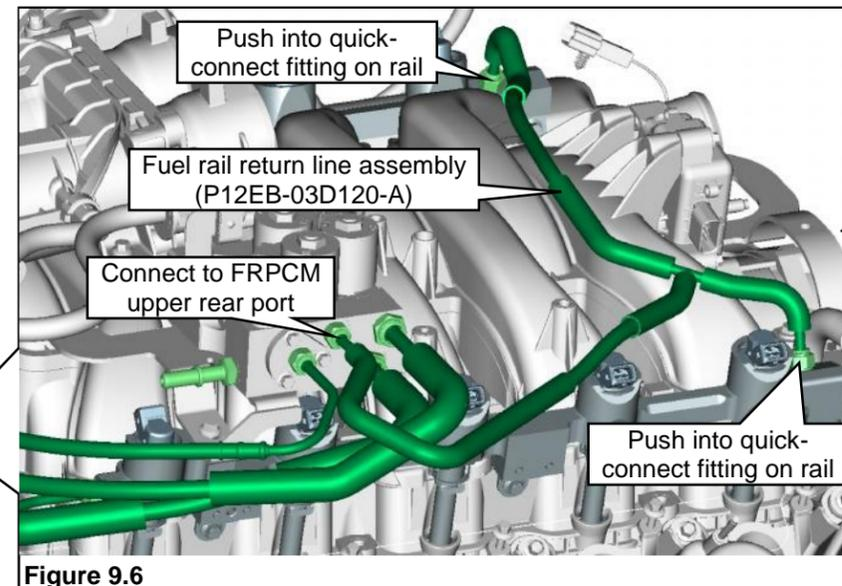

Figure 9.6
11. Connect the fuel rail fuel return line into the FRPCM upper rear 1/4" port. **Figure 9.6.** This line may be labeled with a tag indicating **TOP**.